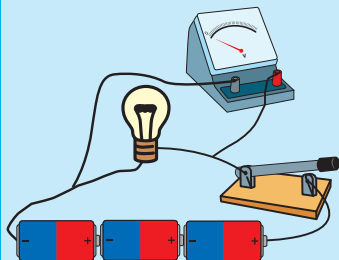

Figure 10.3 ▲
- After that connect three dry cells with the bulb and the switch as shown in Figure 10.3.
Circuit in Figure 10.3